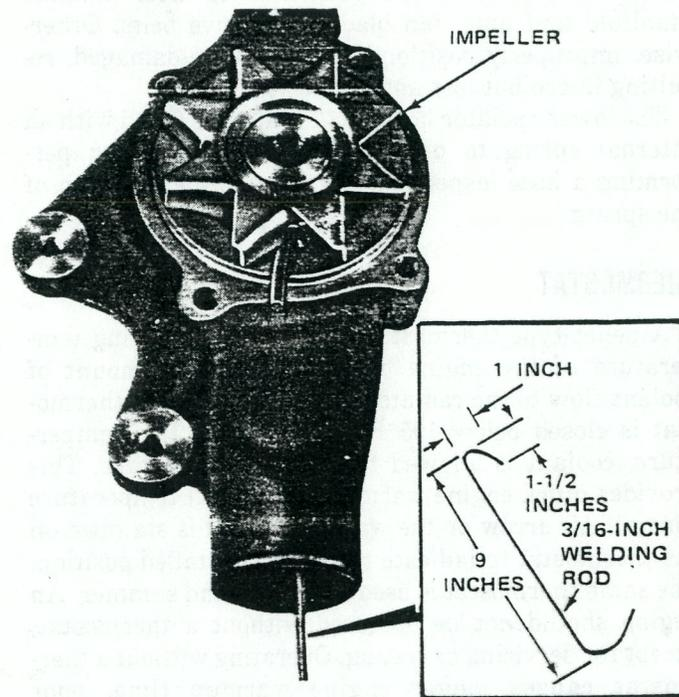

Fig. 1C-5 Testing Water Pump for Loose Impeller—Typical
(1) Drain cooling system.
(2) Loosen fan belt.
(3) Disconnect lower radiator hose from water pump.
(4) Bend stiff clothes hanger or welding rod (fig. 1C-5).
(5) Position rod in water pump inlet and attempt to hold impeller while turning fan blades. If impeller is loose and can be held with rod while fan blades are turning, pump is defective. If impeller turns, pump is OK.